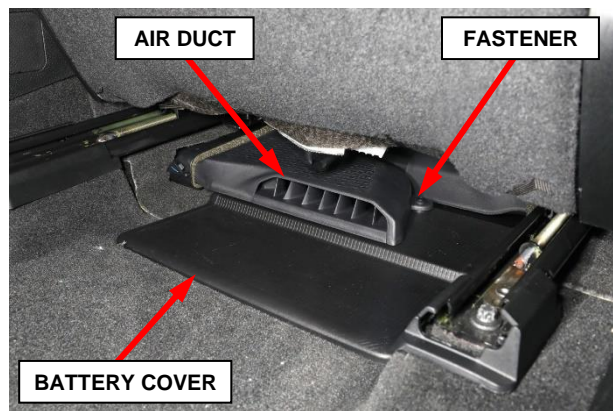

Figure 13 – Air Duct and Battery Cover
3. Under the front seats, remove the air duct fastener then remove the air duct (Figure 13).
4. Under the front seats, remove the battery compartment cover (Figure 13).